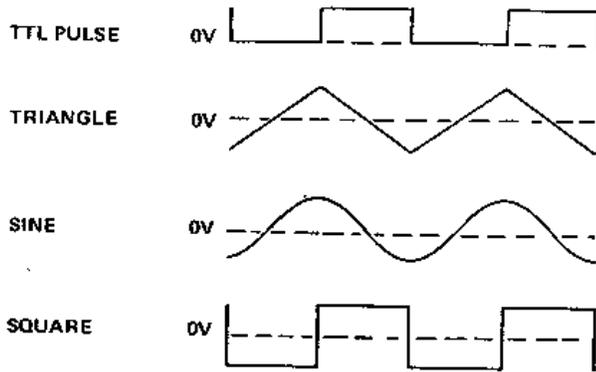

Figure 3-2. Output Waveforms
counterclockwise, negative. When OFF, the waveform is balanced around signal ground (figure 3-2).
A fixed amplitude Transistor-Transistor Logic (TTL) square pulse train of the output frequency is provided at the PULSE OUT (TTL) connector. (TTL levels are 0V to 0.4V for a logic low and 2.4V to 5V for a logic high.) The output can drive up to 20 TTL loads. The pulse train can also be used as a synchronizing reference for the main output ⑦. Phase of the waveforms relative to the TTL pulse is shown in figure 3-2.